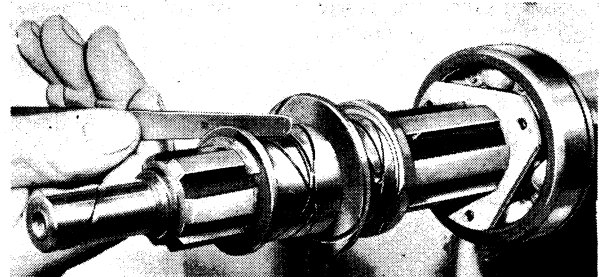

Fig. 32 Checking overall float of mainshaft bushes with feeler gauge.
5. Gripping the mainshaft in the suitably protected jaws of a vice, assemble the gears on this shaft up to the main locating circlip, ensuring that the recess for this is free for its eventual entry by checking with half the circlip previously used (a new one will be required when re-assembling). When a new first or second mainshaft gear is to be fitted, ensure that .004"—.006" end float of the gears is permitted by the length of their bushes, when in their fitted positions. Having ensured that the synchro unit is perfectly free on the splines, check the overall float of the constant mesh assemblies, remove the second and first constant gears, but leaving their respective bushes in position with the hardened steel washer and half circlip. The end float can then be checked with a set of feeler gauges, as shown in Fig. 32. The correct float should lie between .007" and .012".
The end float can then be checked with a set of feeler gauges as shown in Fig. 32. The correct float should be between .007" and .012".